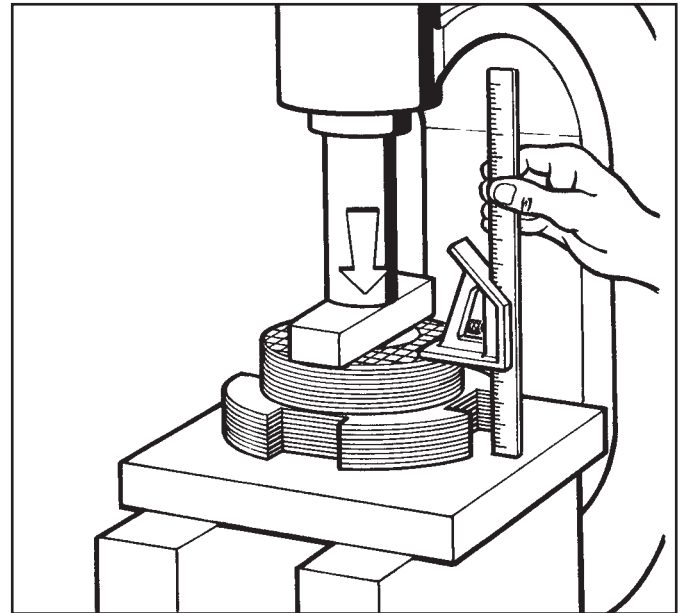

Figure 9.10 - Measuring Stack Height
1. Based on the parts list, place the total number of Friction Discs and Drive Plates in an arbor press as shown in Figure 9.10.